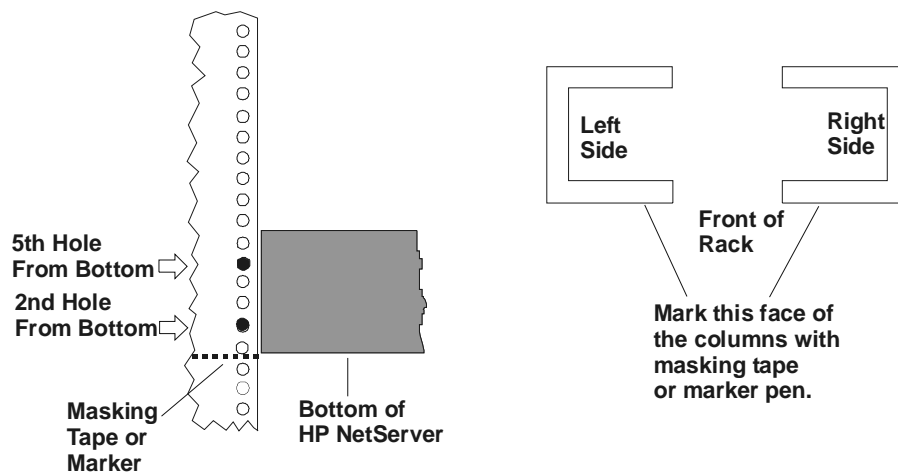

Figure 8-2. Location Marks on the Rack's Front Columns
1. Use the marking pen or masking tape to mark the server position on the front of both columns. See Figure 8-2.